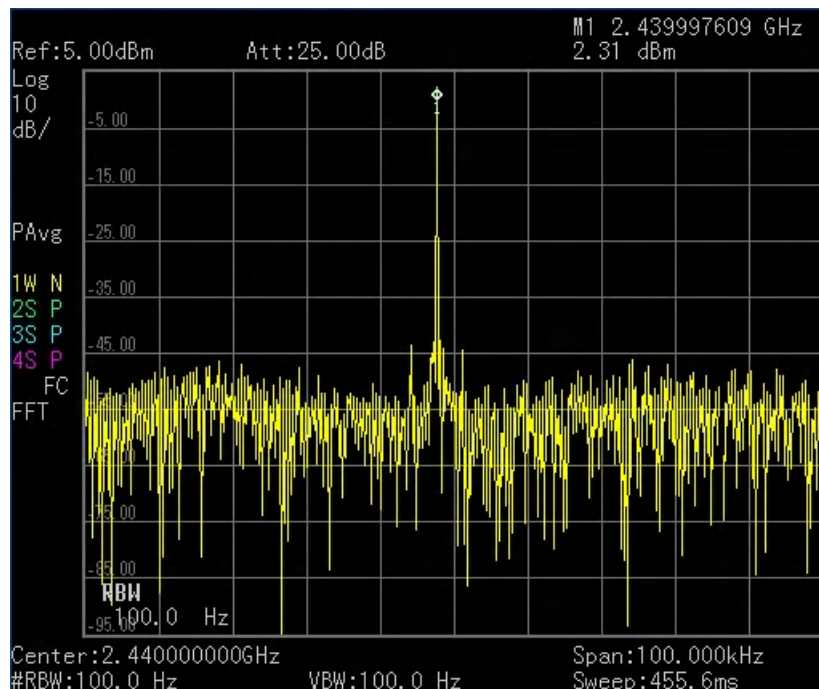

Figure 7-16. Spectrum Analyzer Output from Transmission Center Frequency Offset Test
- Step 4: Measure the actual frequency on the spectrum analyzer. The difference between the actual frequency and the center frequency is the frequency offset. (Reference Figure 7-16 for an example of the results on the spectrum analyzer, the lower the RBW and VBW, the more precise the frequency measurement)